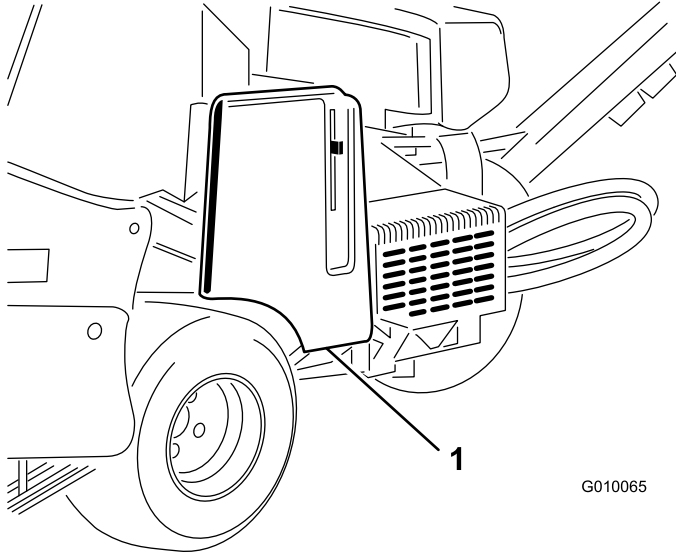

Figure 57
2. Unlatch and remove the belt cover (Figure 57).